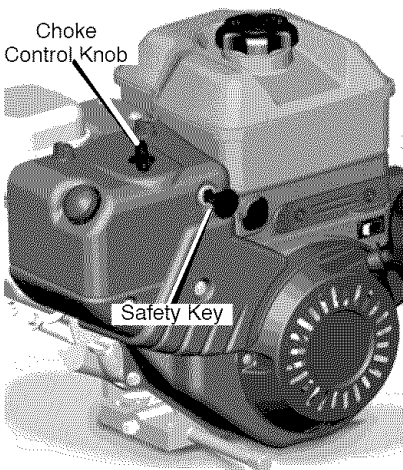

Figure 26
1. Remove the choke control knob (see Figure 26).